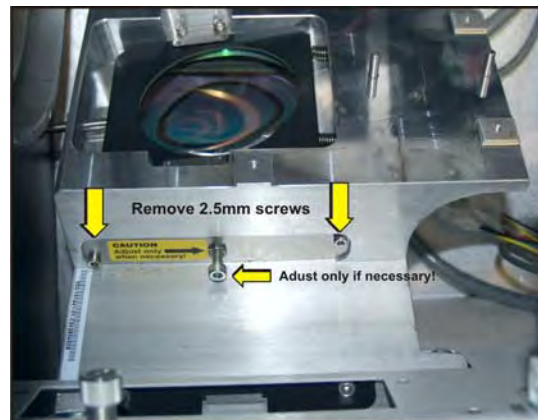

Figure 5-31 Remove YNF
5. Remove the two, 2.5mm screws securing the YNF to the IOS. Loosen the center nut if necessary. **(Figure 5-31)**